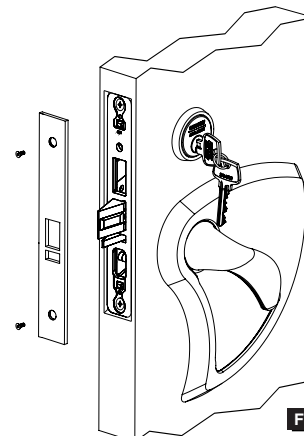

Figure 20
13. Install lock front using two (2) front screws. (Figure 20)